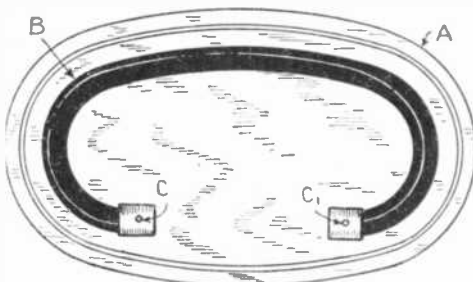
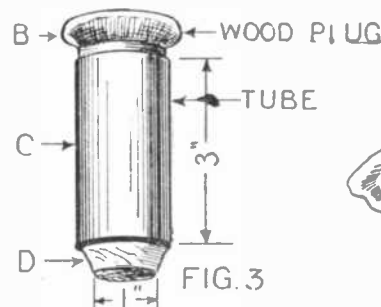

FIG. 1
FIG. 3
Get about 2 inches of some old steel spring taken from the clock that used to hang on the wall, and with a pair of ordinary steel scissors (don't use a good pair) cut a little pointer-arrow as shown on the end of the future permanent magnet in Fig. 3.
After this has been done, the needle is magnetized by slowly drawing it across the poles of a ten-cent permanent magnet as shown in Fig. 3. If the little needle is now placed on a brass pin point, it will immediately turn to a north and south direction, and of course the particular end that does point to the north is the "north pole" of
Fig. 3. The galvanometer needle is easily prepared from a piece of sheet steel magnetized with a horseshoe magnet. It must be short compared to the diameter of the coil to get tangent factors.
The first thing required is an ordinary oval stand sold with the glass shades in common use. This may be of any quality, but as the apparatus is designed from the outset to be long-lived, it is best for it to be of good material. The extreme length of the oval stand (Figs. 1 and 4) may be about 15 inches. An ebonite or vulcanite tube (B) of 1 inch clear internal diameter and about 1½ inches external diameter, and 18 inches in length, is fitted with metal caps, (CC), preferably brass or gunmetal. They may be arranged to screw upon the ends of the tube (B), but in any case will have to be supported by screws or pins passing through them and the substance of (B) in order to withstand the strain to be imposed upon them. Provision should also be made
The caps (CC) must be very firmly fixed, and every means should be adopted to secure this end; otherwise the whole apparatus is faulty. Having, therefore, secured one cap (C) safely, and provided for cap (C') presently to be also securely placed in position, we may proceed to make a punch (Fig. 3). A piece of seamless tube, obtainable of any large ironmonger, is cut off to about 3 inches length (C, Fig. 3). The upper end is fitted with an elm or other tough wood plug (B) and then the lower end is ground down at (D) so as to present a sharp circular edge, 1 inch in diameter. But if any difficulty is experienced in procuring such a form of tool, it is better to purchase a "leather-punch." Discs of card or paper, about 1 inch in diameter, may be cut, so as to easily fit within the tube (B), Fig. 1.
When all the discs are in position within the tube, and both ends fixed, as shown by Fig. 2, two very flexible metal wires are attached. Then, marking out a plan upon the stand, as shown by Fig. 1, the ebonite tube (B) is warmed and bent carefully to correspond to the marks or lines made upon the stand.
Fig. 2 shows the voltaic pile with its terminal wires and caps before it is bent into an incomplete circle, as in Fig. 1. Its two terminal wires connect with the metallized surface of the flowers F and G.
Fig. 3 shows the tubular punch made of a tube C, sharpened to an edge D, and fitted with a wooden plug B, for punching out discs for the voltaic pile. The discs are made of what is sometimes called tea-paper.
Cut from the brass 50 strips, 3 inches long, 1/2-inch wide, by 3/16-inch thick, as shown in Fig. 1, each with a 3/16-inch hole 1/4-inch from the end. Fifty copper or brass washers, 1/2-inch square, with a 3/16-inch hole in the center, should also be provided; they make a fair-sized cell, but the more strips in Fig. 2, fifty strips and washers will make a fair-sized cell, but the more strips and washers the lower the resistance of the completed cell will be. From the mica cut 50 strips 2 9/16-inch long by 1/2-inch wide. One of those strips should be very lightly shellacked to each brass strip, as shown in Fig. 3, so that the end of the brass strip farthest away from the 3/16-inch hole.